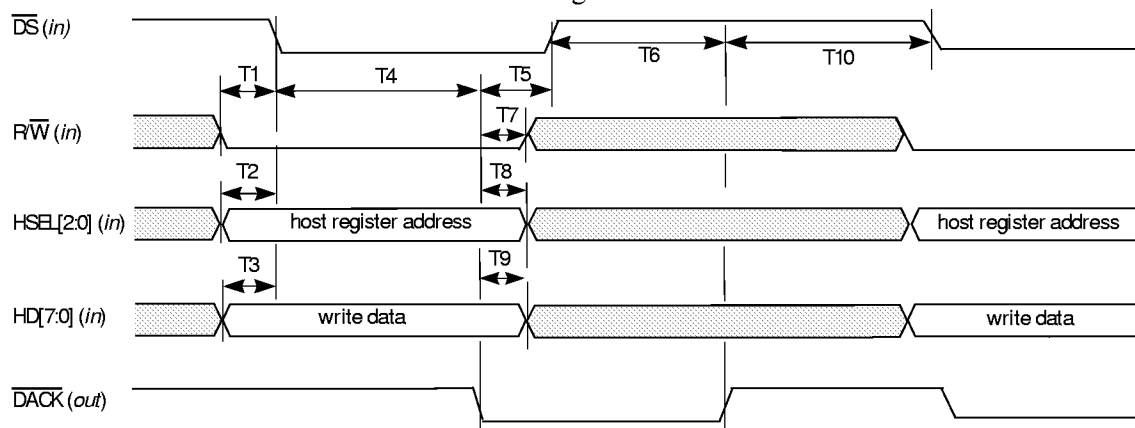

Figure 9-4 Host Interface Local Register, Write Operation
- Figure 9-4, Host Interface Local Register, Write Operation
- Figure 9-4, Host Interface Local Register, Read Operation